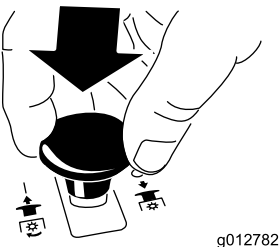

Figure 10
- Push the blade-control switch (PTO) down to the OFF position (Figure 10).